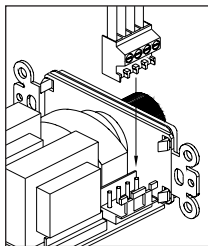

Figure 5
4. Plug the connectors into the VCS-2D as shown in (Figure 5) on next page.